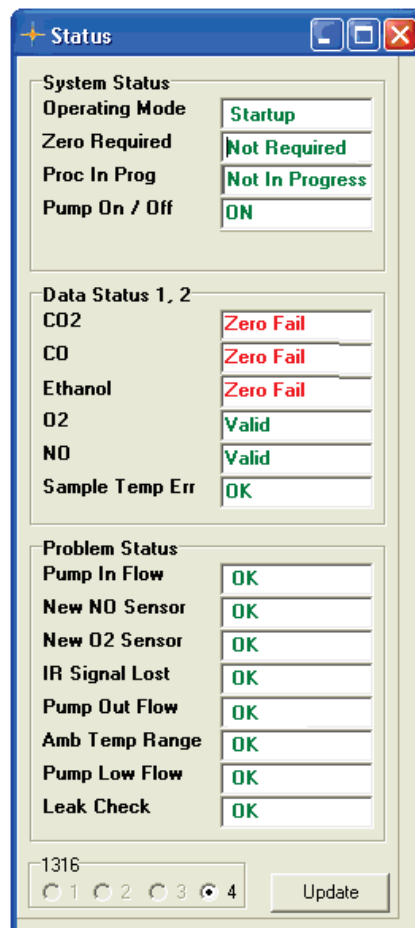

Figure 4.7. The Status Window displaying Zero failed.
4. If the CO2, CO, or Ethanol channel gain cannot be set (e.g., the IR signal is too strong), the following warnings occur, see figure 4.7.
5. If the reference channel gain cannot be set, the following warnings occur (see figure 4.7).